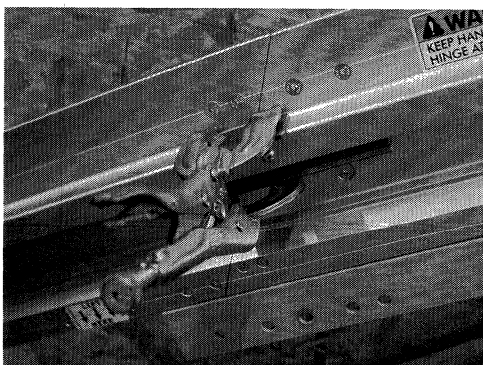

Fig. 9
9. Once ideal joint is achieved, apply clamp (Fig. 9).